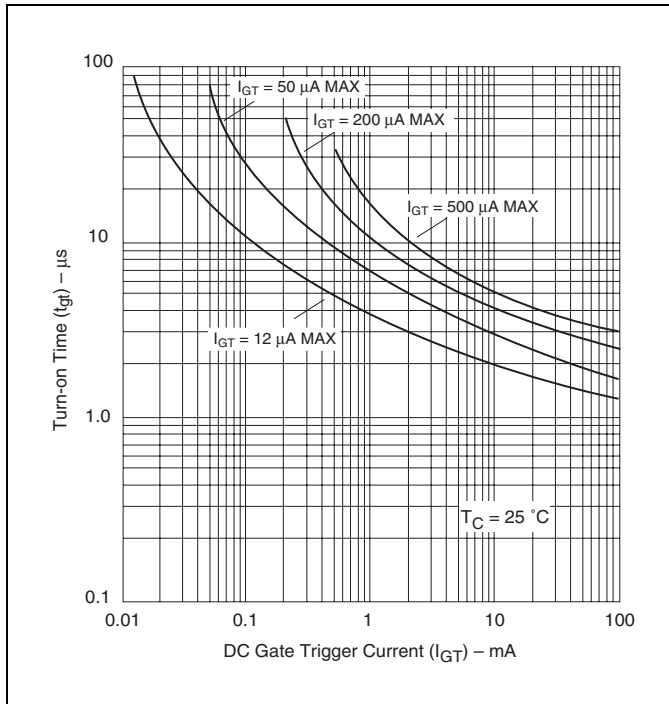
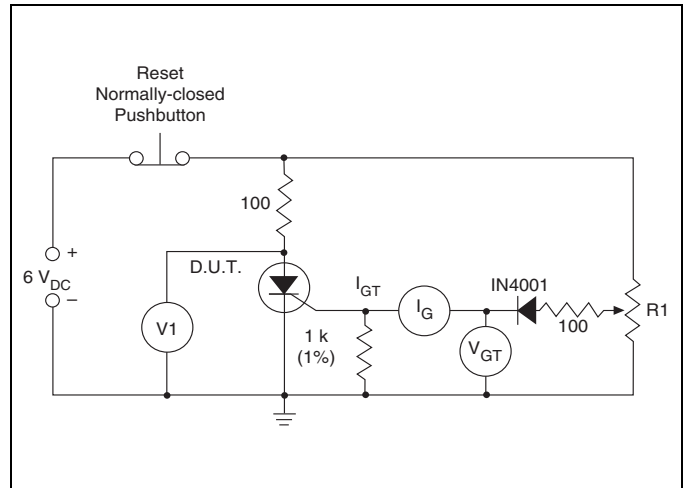

Figure E5.15 Typical Turn-on Time versus Gate Trigger Current
Figure E5.19 Simple Test Circuit for Gate Trigger Voltage and Current Measurement
- (8) See Figure E5.15 for tgt versus IGT.
- (9) Test conditions as follows:
- (10) Test condition is maximum rated RMS current except TO-92 devices are 1.2 APK; T106/T107 devices are 4 APK.
- (11) See package outlines for lead form configurations. When ordering special lead forming, add type number as suffix to part number.
- (12) VD = 6 V dc, RL = 100 Ω (See Figure E5.19 for simple test circuit for measuring gate trigger voltage and gate trigger current.)